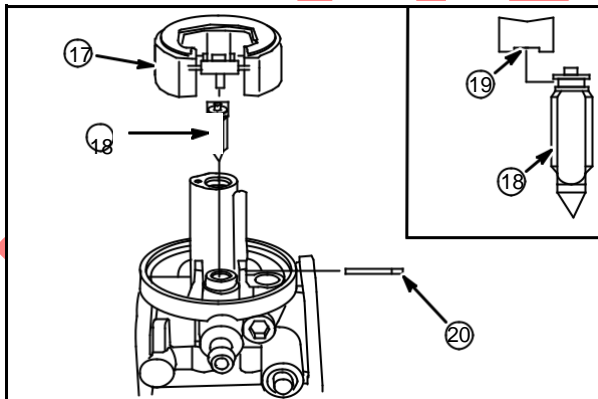

Fig. 54
Assemble inlet needle retainer (19) to inlet needle (18). Assemble to float (17), **Fig. 54**.